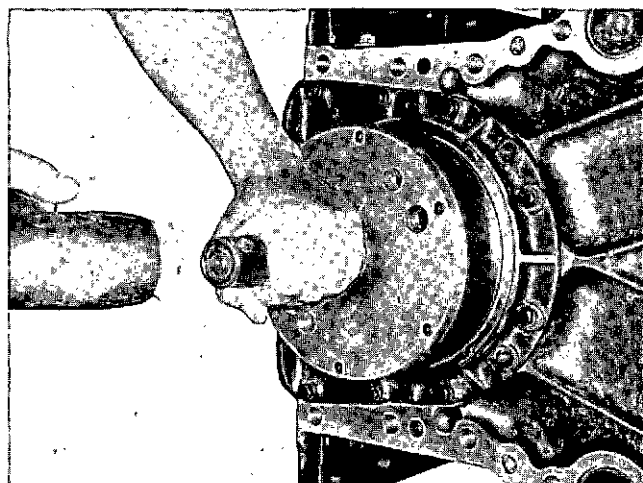

Fig. 14-1-9, V414216. Using ST-1093 Wear Ring and Oil Seal Driver
- b. Slide ST-1093 over guide studs on crankshaft, then install rear cover over tool. Fig. 14-1-9.